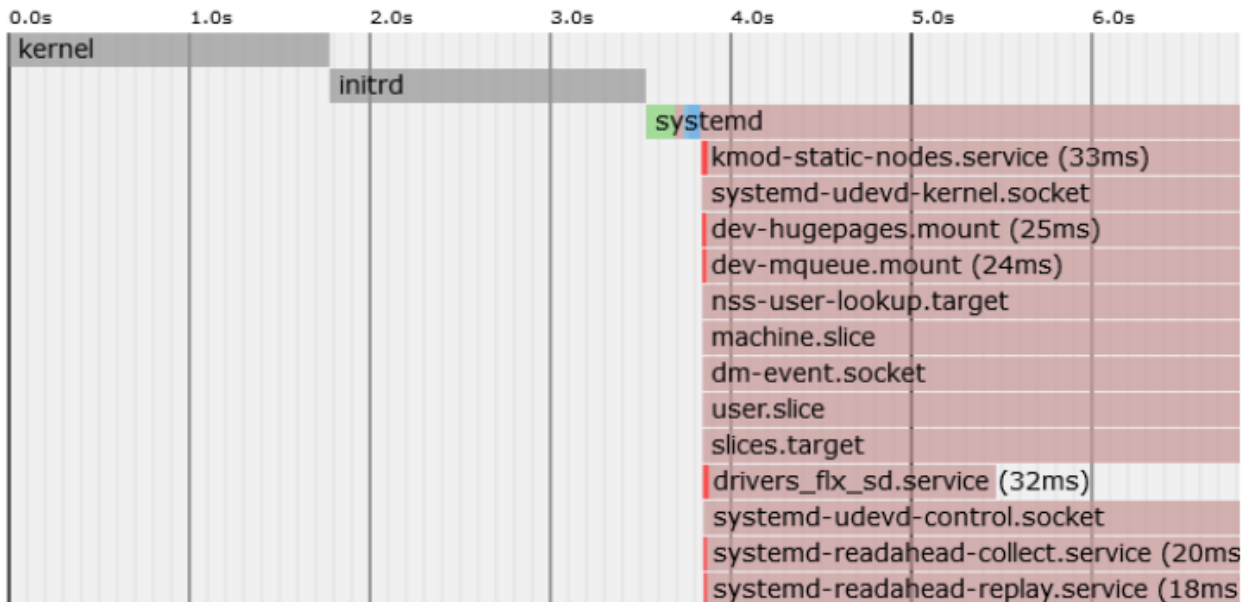

Figure 11.1 Example output of `systemd-analyse`.
- Run `systemd-analyze plot drivers_flx_sd.service > p.svg; eog p.svg`. You will see something like what is shown in Figure 11.1.